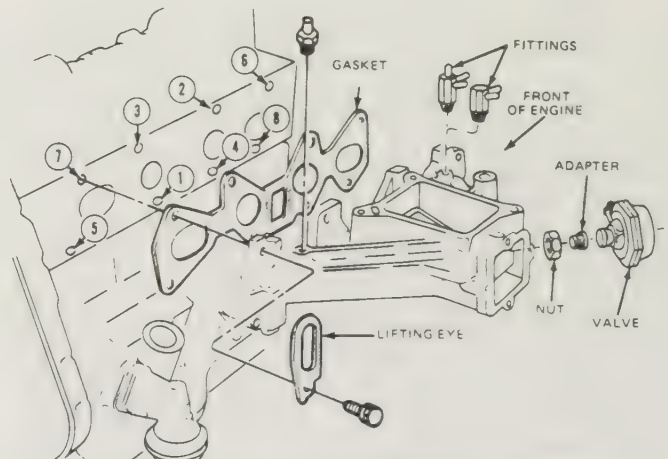

Fig. 1.6. Intake manifold and gaskets (Secs. 8 and 63)
- 4 Loosen the intake manifold securing bolts by about $\frac{1}{2}$ turn each, in the reverse order to that shown in Fig. 1.6. Then remove the bolts completely and lift away the manifold. Note the lifting eye on the No. 7 bolt.